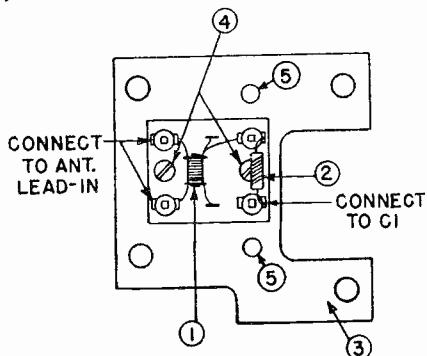
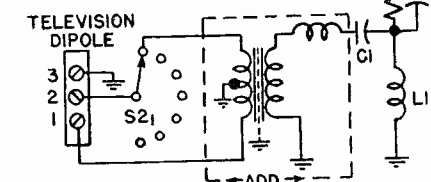

FIGURE 1
FIGURE 3
3. Remove green wire and 1.0-megohm resistor R175 from BC and SW external antenna terminal board, and discard parts. The green lead is end of lead removed in step (1).
5. Assemble transformer (1) Stock No. RLA-033 to mounting plate (3), Stock No. RAP-008, using two #4-40 x 5/16" screws, nuts, and lockwashers. Solder choke (2), Stock No. RLL-037, as shown in schematic, Figure 3, and mechanically mount as shown in Figure 1. Also, fasten the two brass ground straps, removed in step (2), to the holes (5) shown in Figure 1, using two #4-40 x 5/16" screws, nuts, and lockwashers.
7. Solder C1 to choke as shown in Figures 1 and 3.
8. Re-connect antenna input transmission line to terminals as shown in Figure 1.